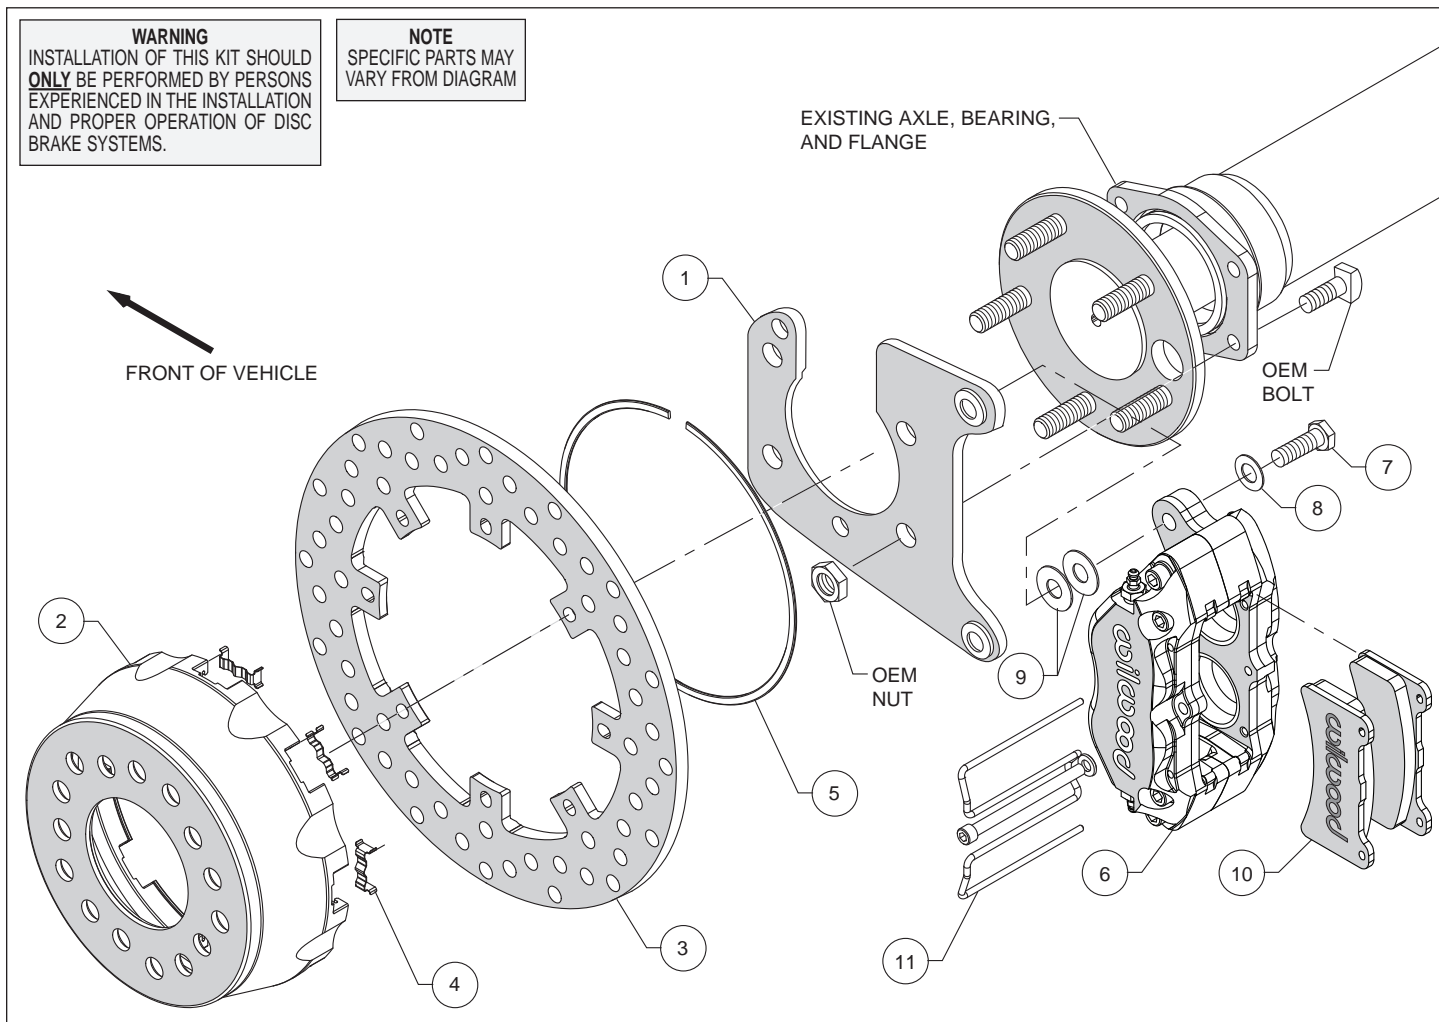
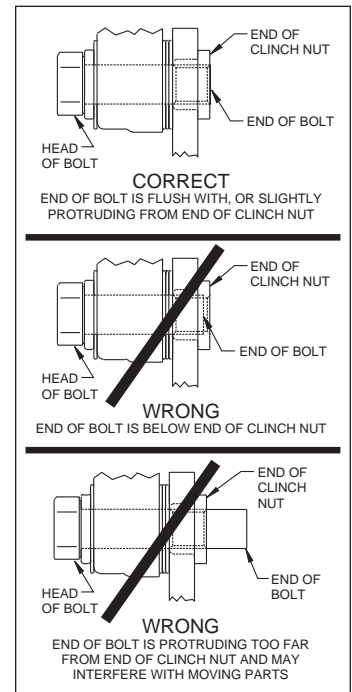

Figure 1. Typical Installation Configuration
Figure 5. Clinch Nut Engagement Diagram
Assembly Instructions (numbers in parenthesis refer to the parts list and Figure 1 on the preceding pages): **CAUTION:** All mounting bolts must fully engage clinch nuts. Be sure to check that all bolts are either flush or protruding through flanged side of clinch nut after shimming, Figure 5.
- Install the caliper mounting bracket (1), with the slot for the axle pointing upward, to the housing flange using the OEM bolts and nuts, as shown in Figure 1 and Photo 1. Ensure that the heads of the clinch nuts are facing outboard, Photo 1. Apply red *Loctite*® 271 to the OEM bolt threads and torque to OEM specifications.
- Insert the dynamic mount wear clips (4) into the slots in the hat (2) making sure the tabs snap in place, Photo 2. Orient the rotor (3) as shown in Figure 1 and Photo 3, with the flush mount tab side facing the hat. Attach the rotor to the hat using snap ring (5) by pushing down on the rotor and installing the ring into the groove in the hat, as shown in Photo 4. Ensure that the ring is fully engaged in the groove.
- Align the correct hole pattern in the hat (2) with the axle stud pattern and slide the hat/rotor assembly onto the axle hub. **NOTE:** The hat must fit flush against the axle flange or excessive rotor run out may result. Install three lug nuts (finger tight) to keep the hat/rotor in place while continuing with the installation. **NOTE:** The hats included in this brake kit are drilled for .68" diameter wheel studs.
- **NOTE:** Please reference the caution statement at the beginning of the assembly instructions. Mount caliper (6) onto the mounting bracket (1) using bolts (7) and washers (8), as shown in Figure 1. Initially place two .035" thick shims (9) on each bolt between the caliper and the bracket, Photo 5. Temporarily tighten the mounting bolts and view the rotor (3) through the top opening of the caliper. The rotor should be centered in the caliper, Photo 6. If not, adjust the caliper by adding or subtracting shims between the bracket and the caliper. Always use the same amount of shims on each of the two mounting bolts. **NOTE:** The end of each bolt must be flush with or slightly protruding from the head of the clinch nut. If necessary, place spare shims between washer and caliper mounting ear to achieve the proper clinch nut engagement, as shown in Figure 5. Once the caliper alignment and clinch nut engagement are correct, remove the bolts one at a time, apply red *Loctite*® 271 to the threads, and torque to